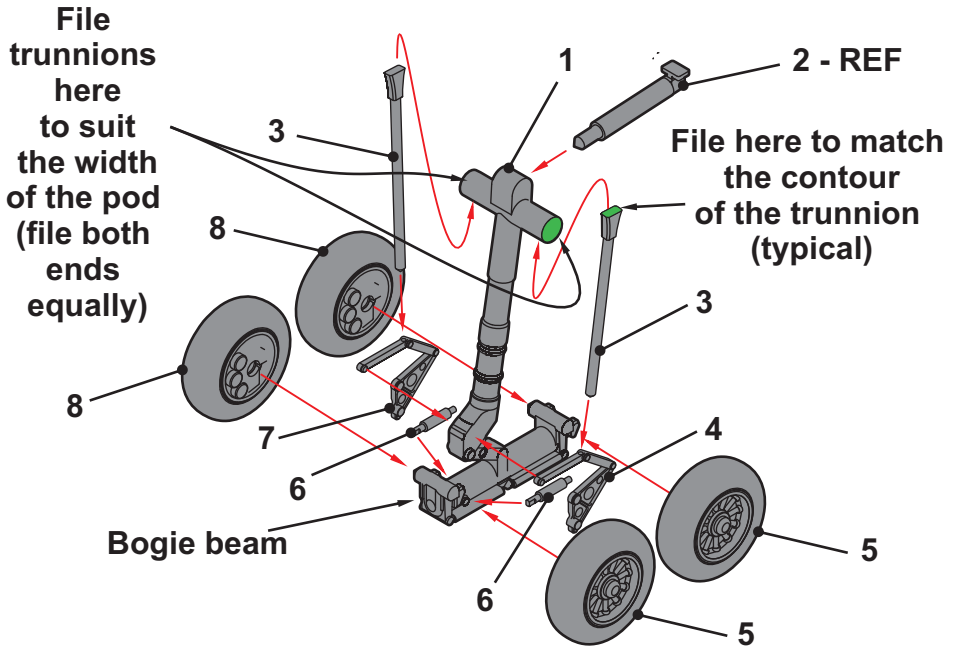

Figure 6
- 4 LANDING GEAR** - see Figure 6
- B Left main landing gear assembly - see Figure 6
- (1) Attach one levelling cylinder (6) to each side of the bogie beam of a main landing gear leg (1). The attachment end of each levelling cylinder touches a small pin at the forward end of the bogie beam.
- (2) Attach a left bellcrank and linkage (4) to the main landing gear leg (1). The linkage is horizontal and the bellcrank is vertical and the
- (1) When the left main landing gear assembly is complete, file the ends of the trunnions (see Figure 6) to give a smooth fit into the landing gear pod.